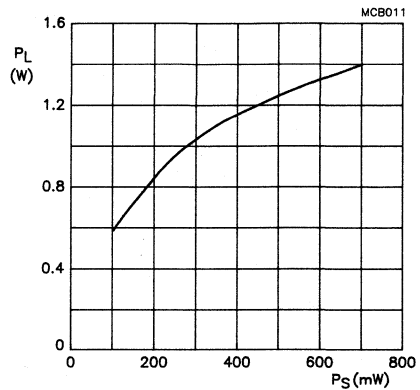

Fig.4 Load power as a function of input power; typical values.
- the device can be applied at rated load power without an external heatsink when it is mounted on a printed circuit board (see Fig. 4).
\* Device mounted on a printed circuit board (see Fig. 4).